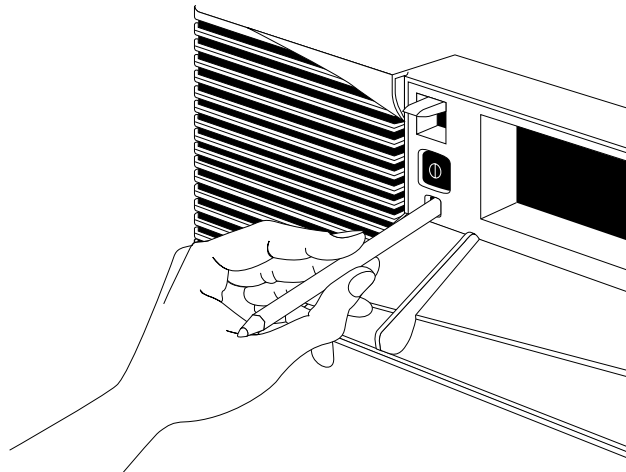

Figure 8-9 Pressing the Reset Button
1. If the system is malfunctioning and you cannot communicate with it using the mouse or keyboard, or over the network, use a pencil or pen to press the **Reset** button located behind the front cover, as shown in Figure 8-9.